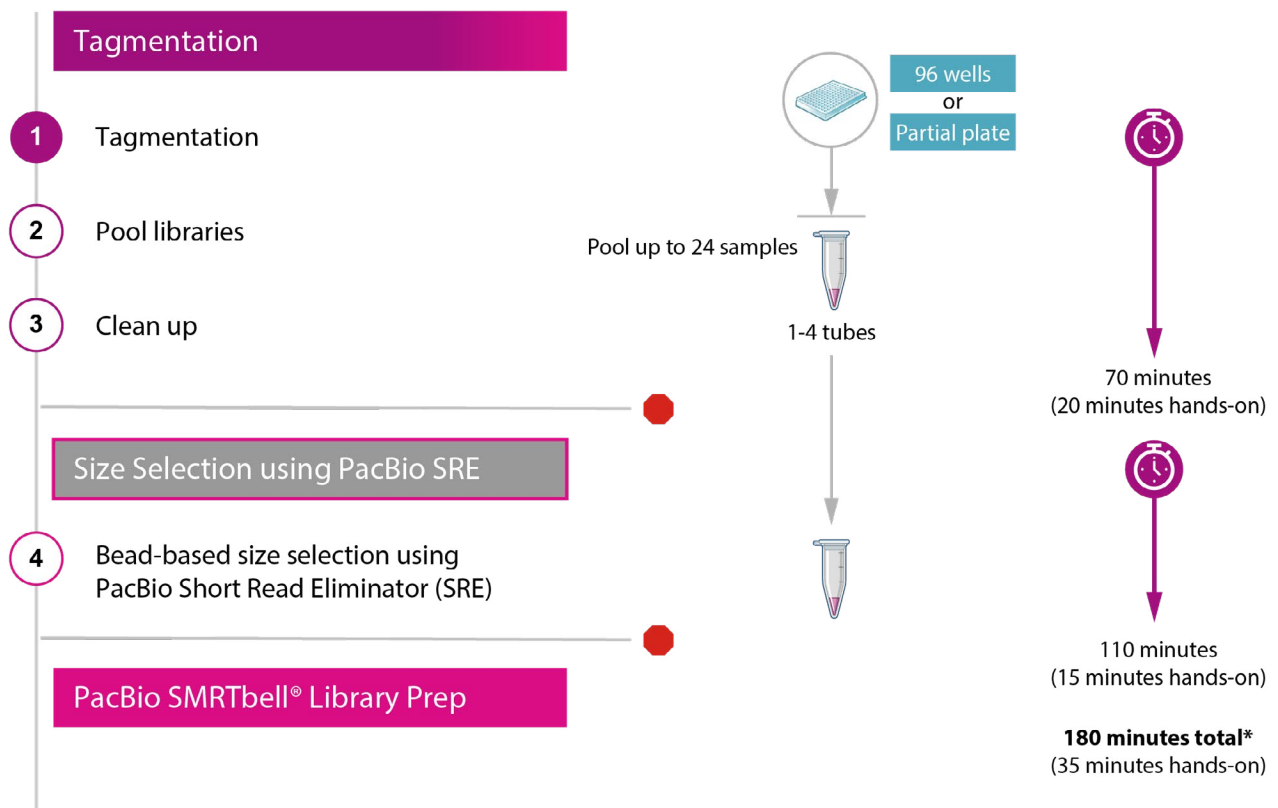

Figure 1. LongPlex >10 kb modified workflow, incorporating SRE size selection of the fragmented sample pool prior to SMRTbell library preparation.
- e. Carefully remove supernatant from tube without disturbing the pellet. Place the pipette tip on the thumb lip side of the tube (see Figure 1 in SRE user manual).